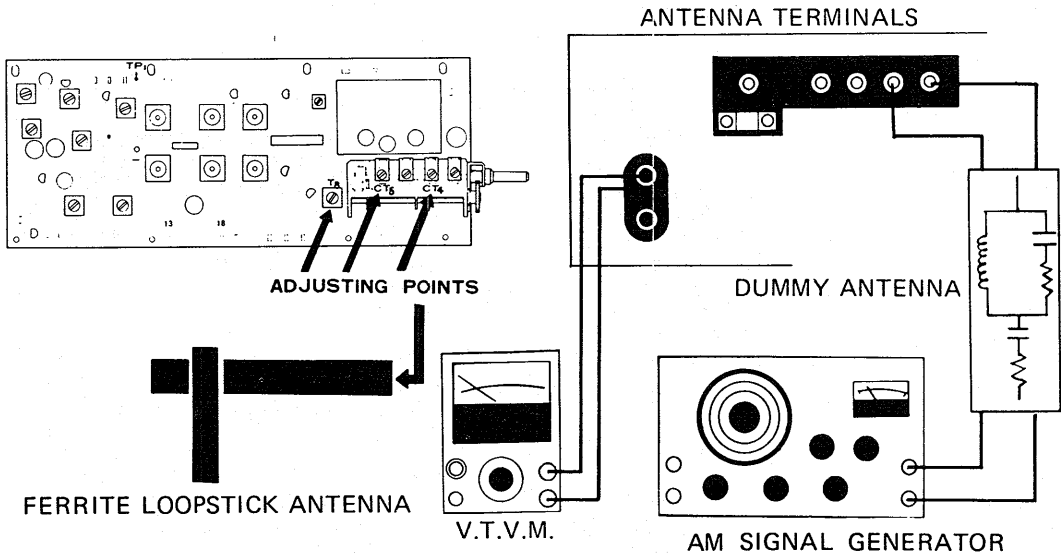

Fig. 11
- Connect the AM signal generator to the AM antenna terminal (Fig. 11).